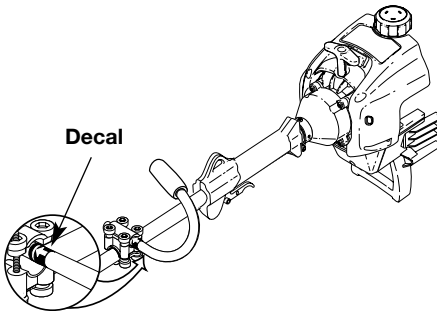

Fig. 5
2. Install, one at a time, the four (4) screws and four (4) hex nuts through the top, middle and bottom clamps with a large Phillips screwdriver. Do not tighten until you make the handle adjustment.
3. Slide the J-handle out until the arrow/white line on the decal touches the clamp assembly (Fig. 5).